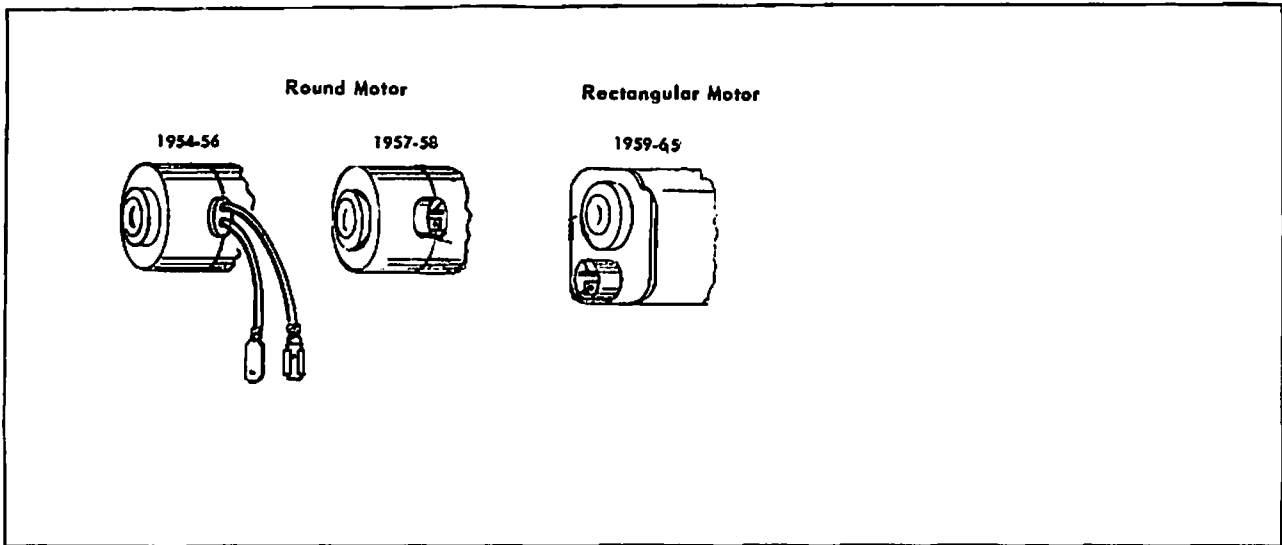
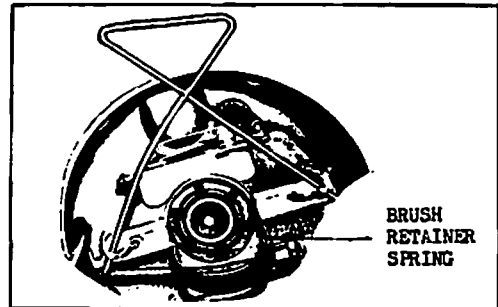

Figure 3-7
Figure 3-9
Refer to Figure 3-8 for nomenclature and location of parts. This view shows typical 1954-56 type of motor having two external feed wires. The 1957-65 models have terminal grommet assembly as shown in Figure 3-7. To disassemble motor, refer to Figure 3-9.
5. (a) To separate armature from case while still retaining the brush-springs and brushes in place, fashion a spring similar to that shown in Fig. 3-9 and insert behind the brush leads as shown.
(b) Pull the armature out of the case and install "U" shaped brush retainer spring. Part Number 5096576, as shown in Figure 3-9